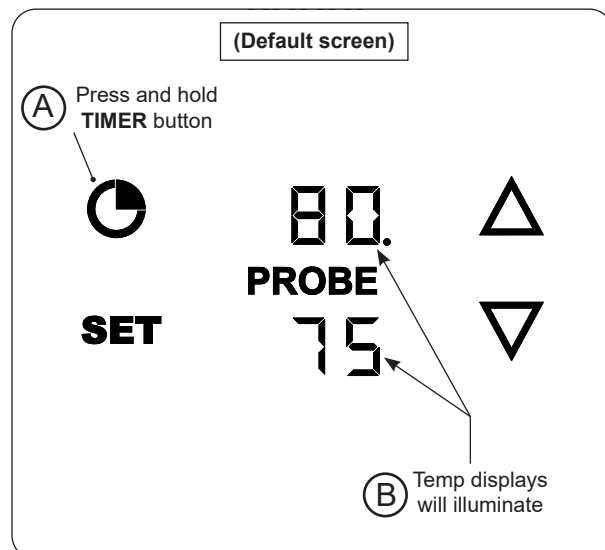

Fig. 39-1 Turn on thermometer/thermostat
3. Press and hold the **TIMER** button (Fig. 39-1, A) until the remainder of the displays illuminate (Fig. 39-1, B). This is the “**default screen**”. The default screen displays your temperatures. The top display is the grilling temperature, and the bottom display is the meat probe temperature (if plugged in).